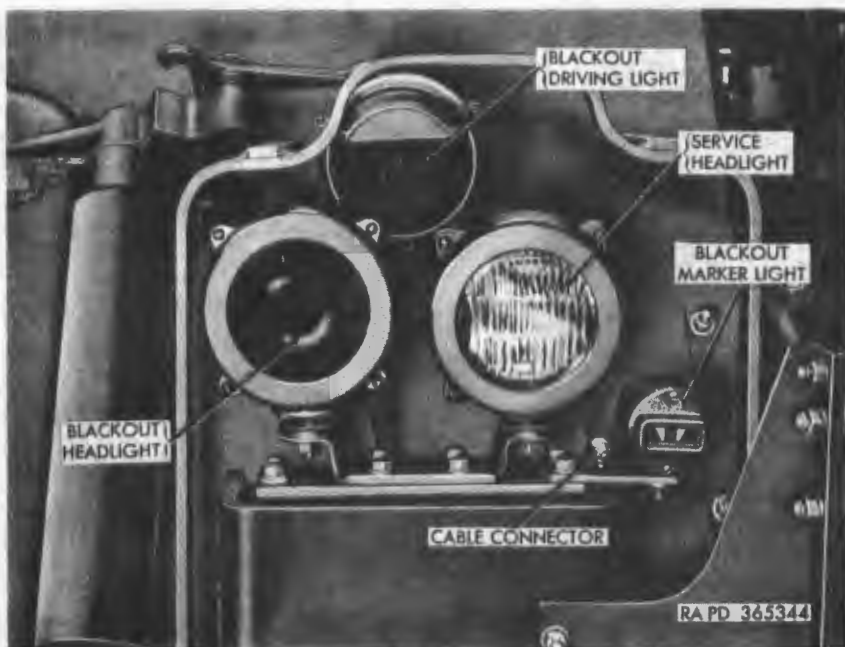

Figure 150. Left headlight group.
e. *Blackout Driving Light* (fig. 150). The blackout driving light